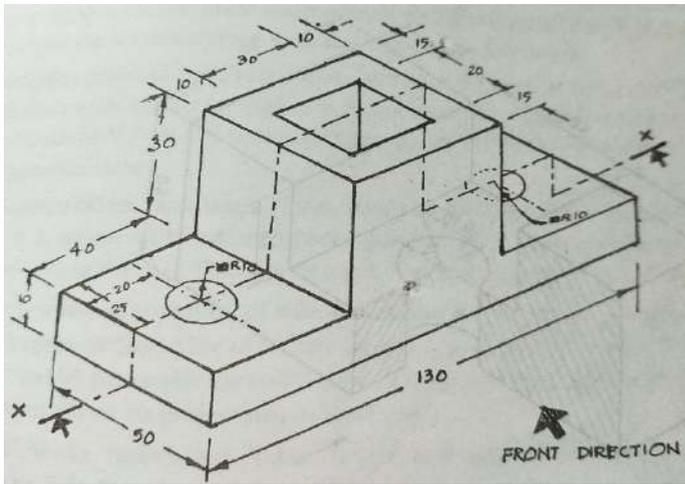

Fig. 5
7. Draw the sectional front view and top view, side view for the object shown in **Fig. 5**.